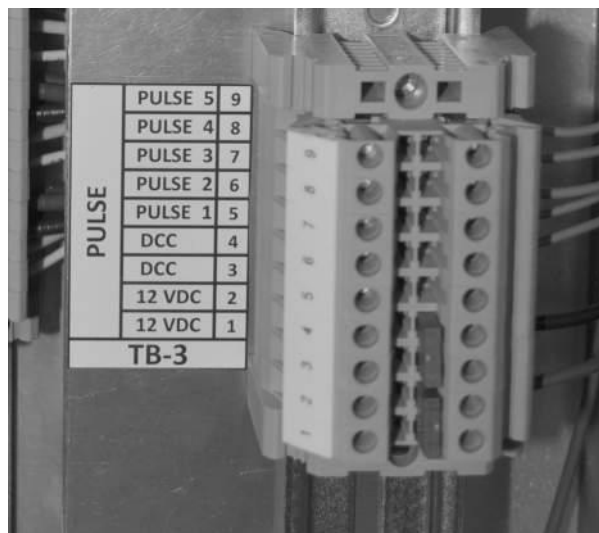

Figure 20. TB-3 12VDC Power and Pulsar
1. Connect the black wire from the shielded pulser cable coming from Pump 1 to position 4 on TB-3, labeled DCC (Figure 20).